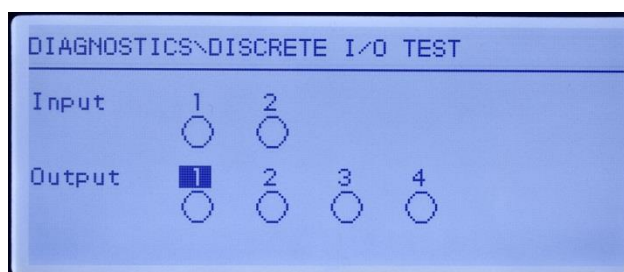

Figure 5-5: Discrete I/O Test Screen
- 2 Press **ENTER** to continue to the diagnostic screen. When viewing the test screen, the input status will be shown at the top of the display and the output status will be shown at the bottom of the display (Figure 5-5). Focus is shown on Output #1 first.